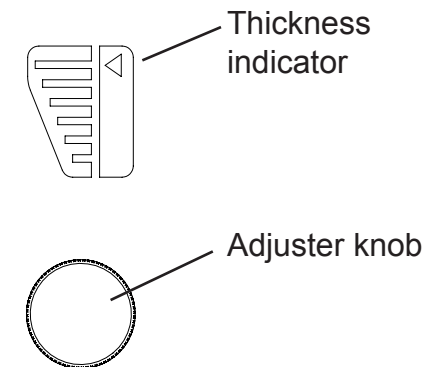

Figure 1.
- The gap between the conveyor and heating plate is adjusted by rotating the adjuster knobs located on the left and right side of the unit. See figure 1. The gap should be set so as to apply enough pressure on the face of the bun to ensure good contact with the heating plate but not too tight so as to deform the bun. The thickness indicator on the front of the unit shows the widest position at the top and narrowest position at the bottom.